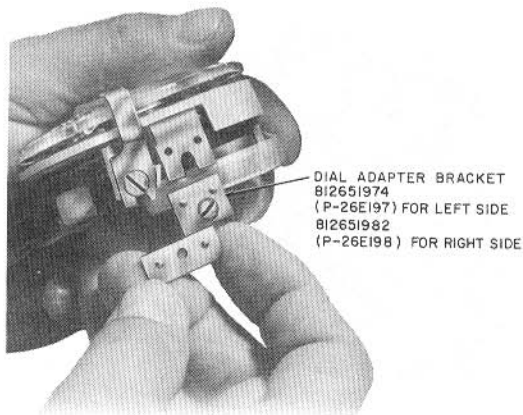

Fig. 14—Placing Dial Adapter Brackets on Rotary Dial When Converting from TOUCH-TONE Dial
- (1) From TOUCH-TONE service to rotary, add 812651974 (P-26E197) and 812651982 (P-26E198) adapter bracket to rotary dial (Fig. 14).
- (2) From rotary to either 10- or 12-button TOUCH-TONE service, dial mounts directly to frame assembly.
- (3) Refer to appropriate Reference section for faceplate and mat ordering information.